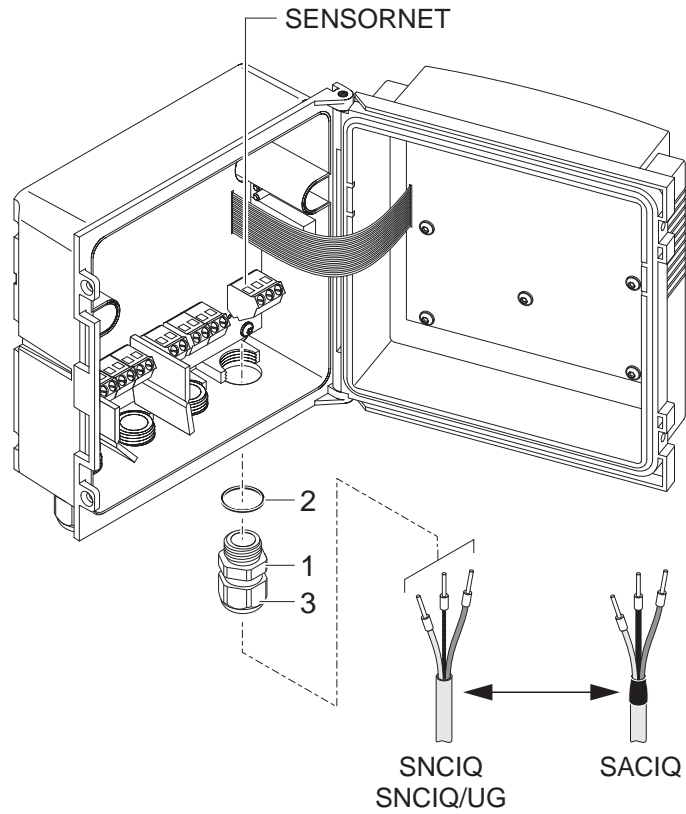

Fig. 3-12 Connecting cables (example of Universal Transmitter)
| 3 | Screw a cable gland (pos. 1 in Fig. 3-12) with the sealing ring (pos. 2) into the enclosure. |
| 4 | Loosen the coupling ring (pos. 3 in Fig. 3-12). |
7	Tighten the coupling ring (pos. 3 in Fig. 3-12).